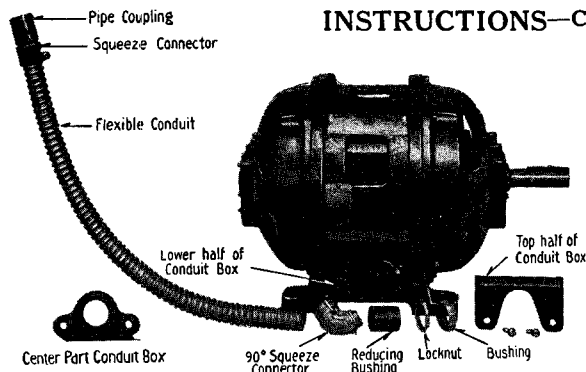

FIG. 3—METHOD OF CONNECTING MOTOR TO LINE
In order to connect a squeeze connector to the conduit box shown in Fig. 3, first remove the cover of the box. Run a locknut well down the threads of the connector and place the connector in the large hole of the middle section of the conduit box. Screw a conduit bushing over the end of connector, swing the connector to the desired position and draw the locknut up tight against the box. Follow the same procedure with rigid conduit or reducing bushing.
THIS TYPE OF CONDUIT BOX IS USED FOR SOME MOTORS WHILE OTHERS HAVE THE TYPE OF CONDUIT BOX SHOWN IN FIG. 3.
5. Press the bearing out toward the inside with a press or use a piece of brass or other soft material and a mallet. (See Fig. 3). Be sure the oil ring is as far out as possible during this operation.